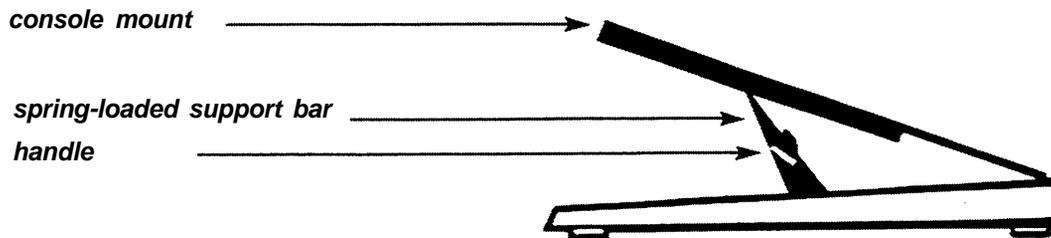
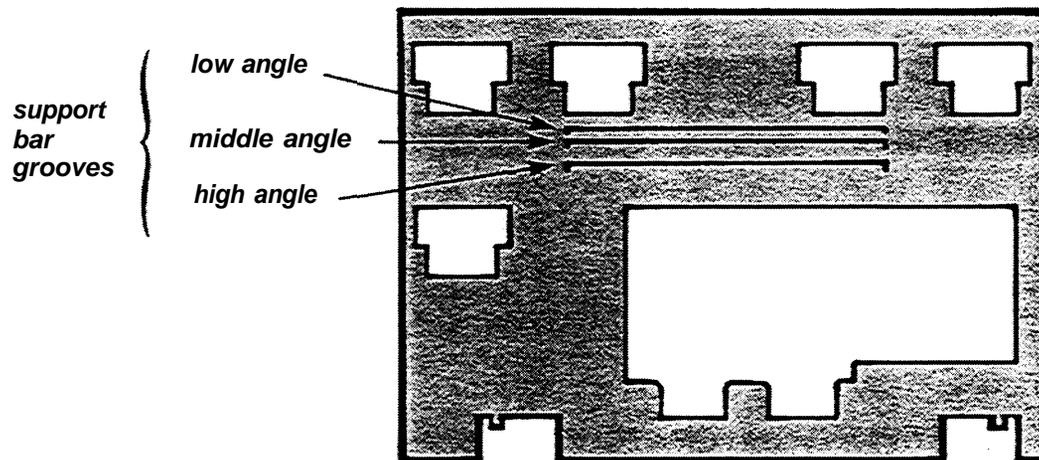

Figure 3.
Figure 4.
1. Check to see that your desk stand is adjusted to the lowest position. The support bar (see Figure 3) should be in the groove for the lowest position (see Figure 4). If it is not in the lowest position, adjust it now by following the instructions in the next section, "Adjusting the Desk Stand".
1. Grasp the handle on the spring-loaded support bar (see Figure 3).
2. Lift the console mount slightly (see Figure 3).
3. Put the bar underneath the groove for the appropriate position (see Figure 4).